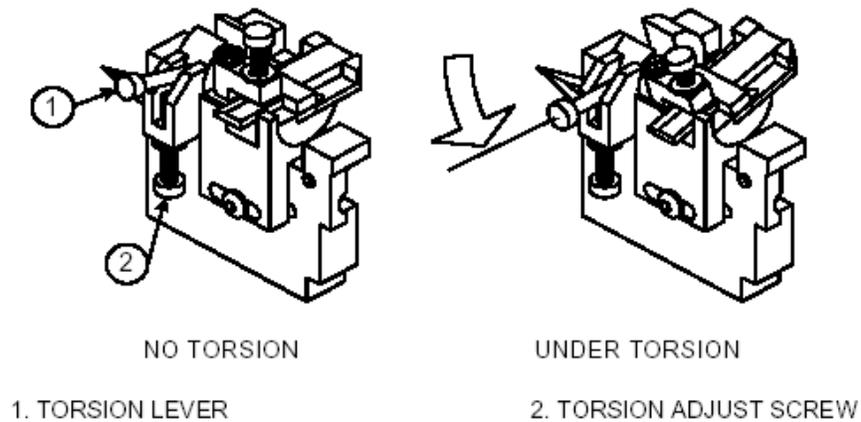
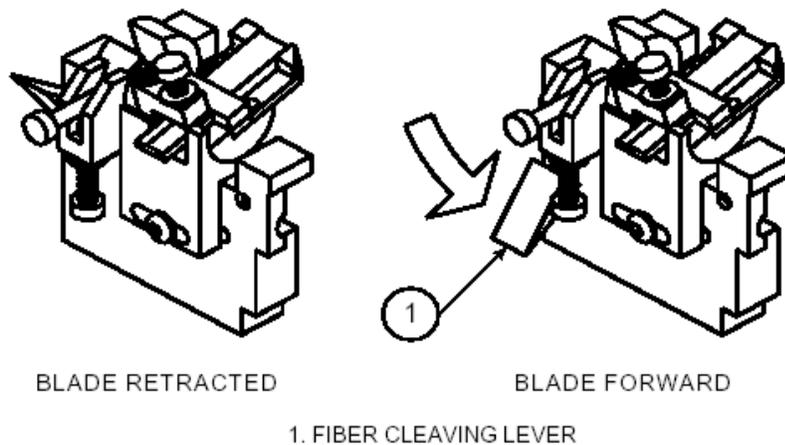

Figure 5: Torsion Lever on Left Clamp
Figure 6: Fiber Cleaving Lever
1. Fiber Cleaving Lever (shown in detail in Figure 6)
7. Depress the Torsion Lever as far as the end-stop (see Figure 5). The end-stop should be previously set, using the Torsion Adjust Screw, to achieve the desired end angle on the fiber. This will apply a twist to the fiber while it is under tension.
8. In order to cleave the fiber, move the Fiber Cleaving Lever (shown in Figure 6) down smoothly to release the blade mechanism. The green LED will glow for approximately 3 seconds (this is to indicate that the blade is oscillating and the battery is in good condition). The blade will advance and cleave the fiber, producing an angled cleaved end.
9. After the fiber has been cleaved, raise the Fiber Cleaving Lever to the fully up position (shown in Figure 6), raise the Torsion Lever (shown in Figure 5) to the ZERO position then open the Left Clamp and remove the cleaved fiber. Return all levers to the START position (UP), ready for the next cleave. Remove the off-cut and dispose of it safely. The cleaver is now ready to cleave a new fiber.
The Torsion Lever (see number 1 in Figure 5) is depressed as far as the adjustable end stop in order to apply a twist to the tensioned fiber. To adjust the angle of twist, the Torsion Adjust Screw (see number 2 in Figure 5) can be rotated to adjust the position of the end stop.
Failure to cleave. Fiber bends instead.	<ol style="list-style-type: none"> 1. Clean fiber using isopropyl alcohol. 2. Increase tension on the fiber by following the instructions described in ADJUSTMENTS on Page 5. 3. Make sure the battery is working properly. 4. Clean all clamp faces with isopropyl alcohol, methanol, or propanol using a cotton-tipped stick and air duster. Dirty clamps are indicated by bad end angles or the fiber breaking under the clamp face. 5. Clean the diamond blade by thoroughly wetting it with methanol or propanol (do not use acetone) using a cotton-tipped stick. While it is still wet, lower the Fiber Cleaving Lever (see Figure 6). 6. Raise the blade one quarter turn.